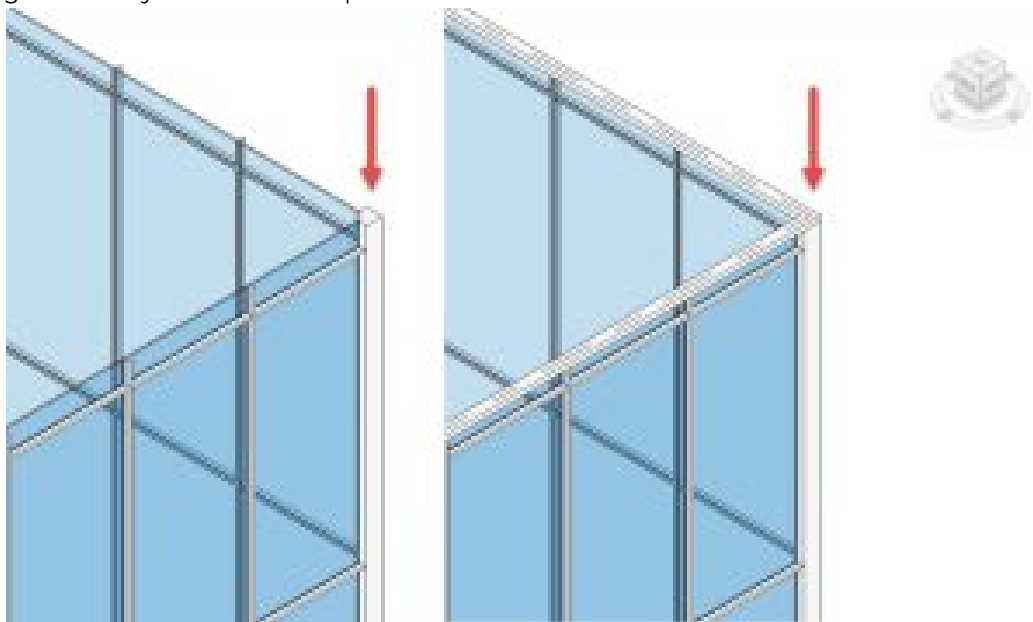

Figure 2.33 Modified corner mullions (left) and added top mullion (right)
16. Use the Type Selector to change the mullion to L Corner Mullion: 5" X 5", use Figure 2.33 for reference
19. Select the top edge of the curtain wall to add mullions to finish off the wall as shown in Figure 2.33